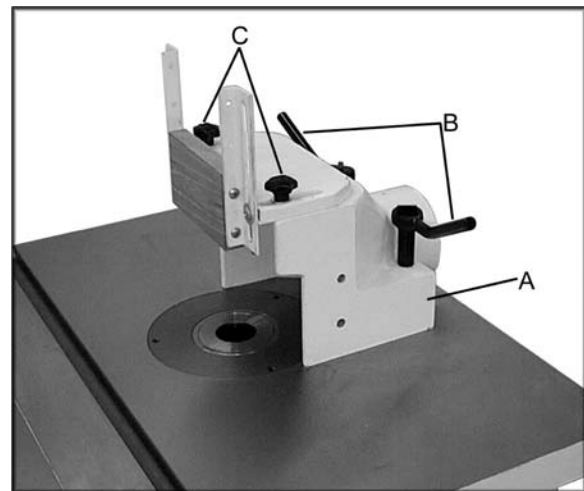

Figure 1
5. Place the dust chute (A, Figure 1) on the table and secure by threading two ratcheting handles (B, Figure 1) into the tabletop.
6. Secure the spindle guard assembly to the dust chute using two knobs and two washers (C, Figure 1). **Note:** You should first attach the wood piece to the two brackets with four wood screws. Then attach the wood and brackets to the plate guard using two screws and washers.